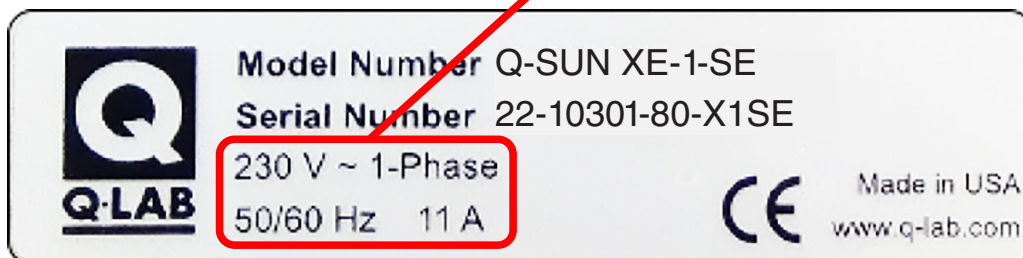

Figure 6.2b: Tester voltage and current shown on nameplate.
- The input voltage and current rating are shown on the nameplate attached to the rear of the unit (Figure 6.2b).